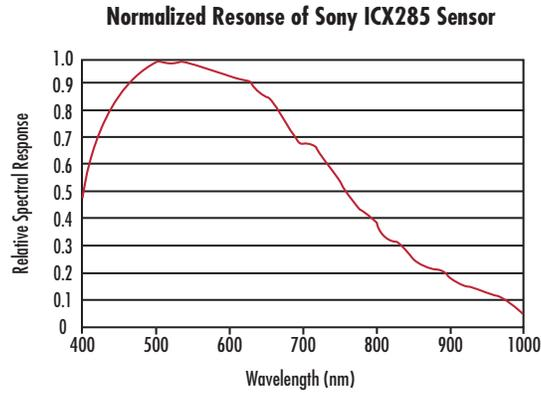

Figure 8: Normalized Spectral Response of a Typical Monochrome CCD
CCD and CMOS sensors are sensitive to wavelengths from approximately 350 - 1050nm, although the range is usually given from 400 - 1000nm. This sensitivity is indicated by the sensor's spectral response curve (Figure 8). Most high-quality cameras provide an infrared (IR) cut-off filter for imaging specifically in the visible spectrum. These filters are sometimes removable for near-IR imaging.